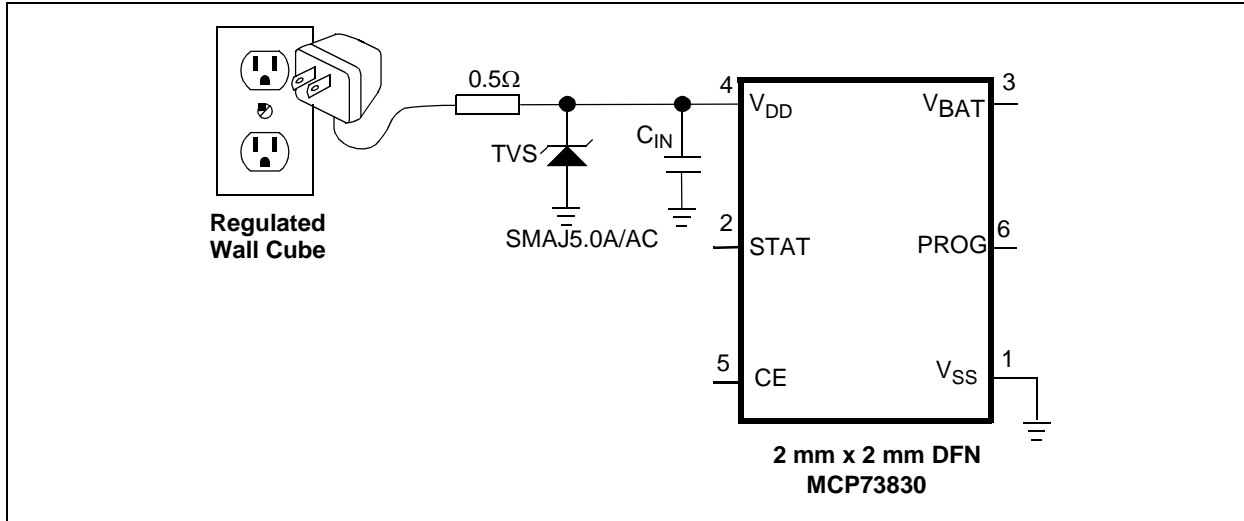

FIGURE 6-3: Input Over Voltage Protection Example.
Input over voltage protection must be used when the input power source is hot-pluggable. This includes USB cables and wall-type power supplies. The cabling of these supplies acts as an inductor. When the supplies are connected/disconnected from the system, large voltage transients are created which may damage the system circuitry. These transients should be snubbed out. A transzorb - unidirectional or bidirectional - connected from the V+ input supply connector to the 0V ground reference will snub the transients. An example of this can be seen in Figure 6-3.
7. Added Figure 6-3.